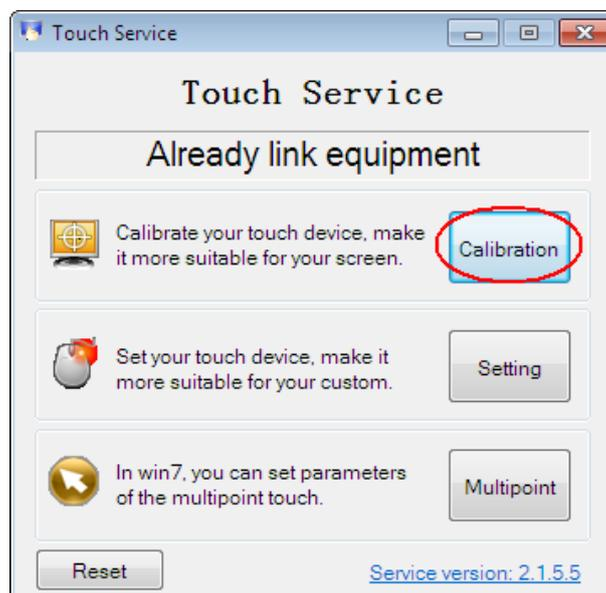

Figure 3-17
- 1) Click "Calibration" on Touch Service main interface (Figure 3-17).